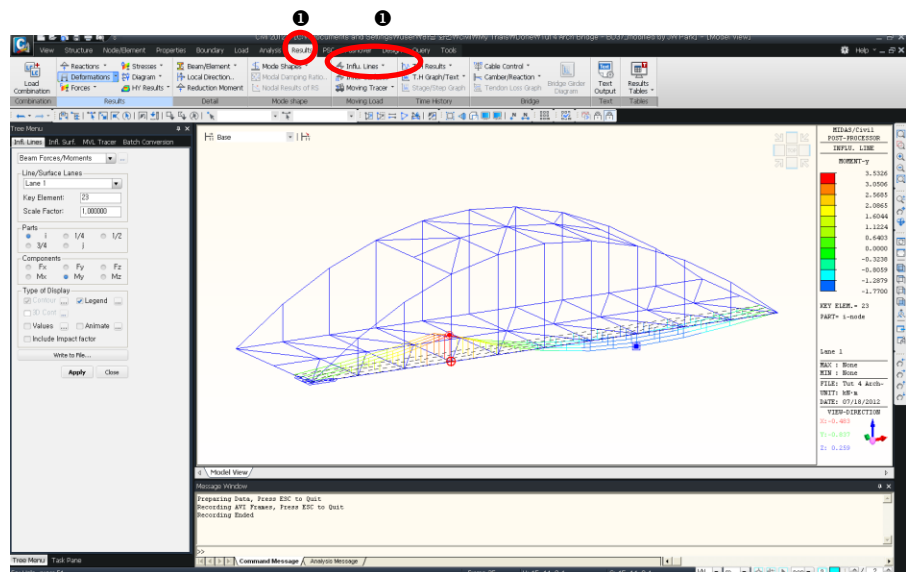

Figure 4.31 Moment Influence Line
Figure 4.31 shows the moment influence line.
2. Click  **Beam Forces/Moments** in **Result > Moving Load > Infl.** from the Main Menu. (Figure 4.31-①).